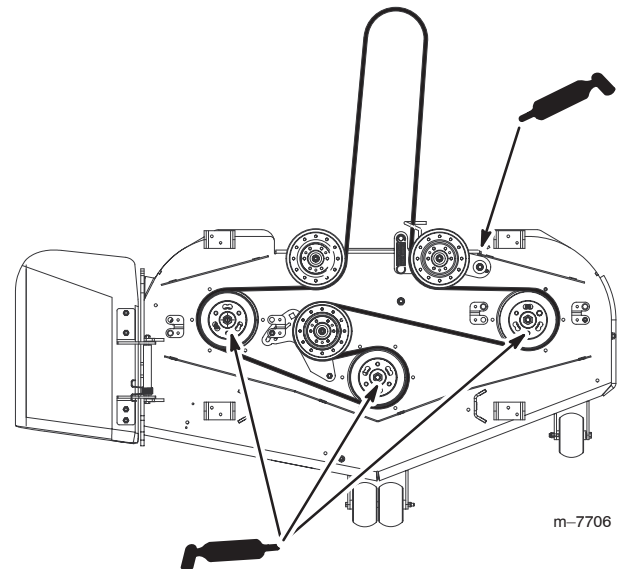

Figure 40
3. Grease the fittings on the 3 spindle bearings (Fig. 40).
4. Grease the idler pulley pivot (Fig. 40).